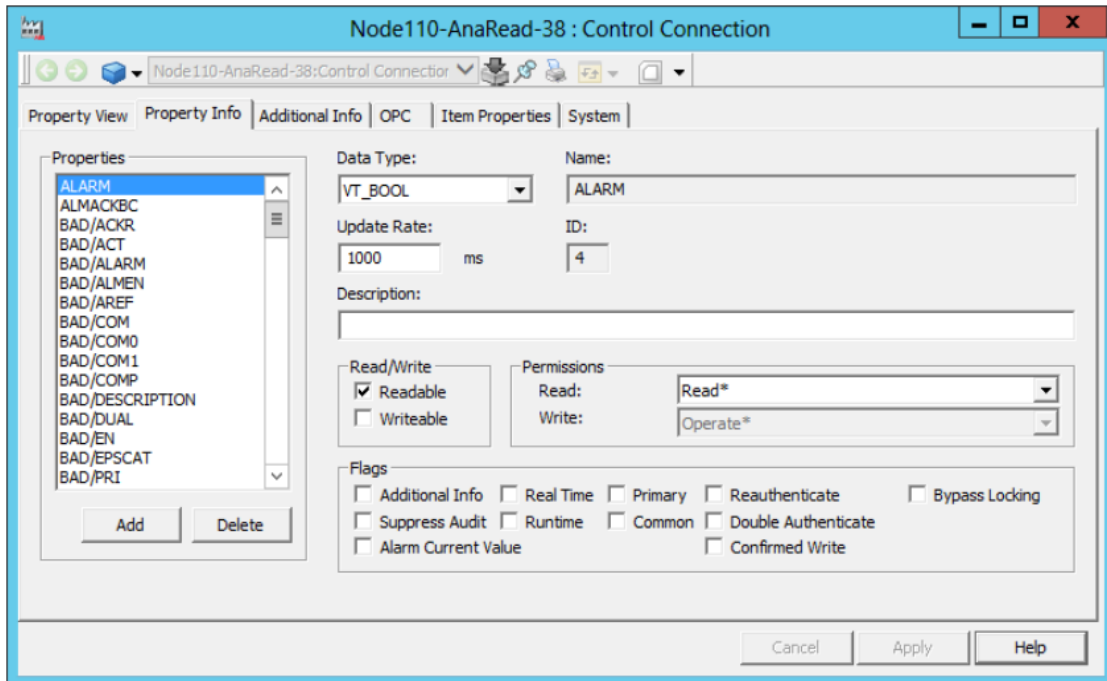

Figure 61. Authentication Configuration
4. Select the Property Info tab as shown in Figure 61.